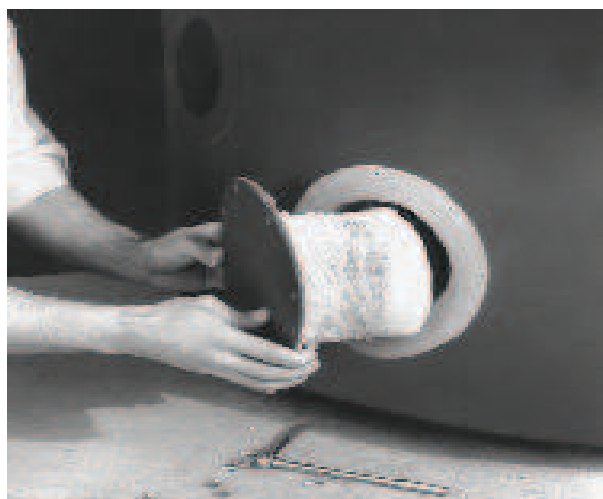

Figure 20 - Removing Clean-Out Plugs
- » Remove clean-out plugs at lowest part of unit (See Figure 20) and clean the bottom of combustion chamber.